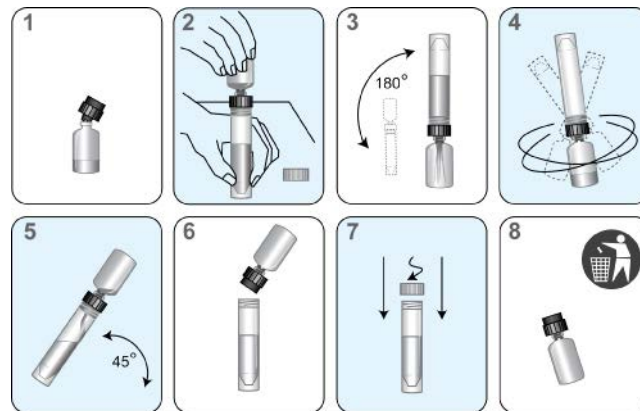

Figure 5. Reagent Reconstitution Process
- ii. Firmly insert the notched end of the reconstitution collar (black) onto the vial (Figure 5, Step 1).
- iv. Place the reconstitution solution bottle on a stable surface (i.e., bench). Then, invert the lyophilized reagent vial over the reconstitution solution bottle and firmly attach the collar to the reconstitution solution bottle (Figure 5, Step 2).
- v. Slowly invert the assembled bottles (vial attached to solution bottle) to allow the solution to drain into the glass vial (Figure 5, Step 3).
- vi. Pick up the assembled bottles, and swirl the assembled bottles for at least 10 seconds (Figure 5, Step 4).
- c. Slowly tilt the assembled bottles again to allow all of the solution to drain back into the reconstitution solution bottle (Figure 5, Step 5).
- d. Carefully remove the reconstitution collar and glass vial (Figure 5, Step 6).
- e. Recap the bottle. Record operator initials and reconstitution date on the label (Figure 5, Step 7).
- f. Discard the reconstitution collar and glass vial (Figure 5, Step 8).